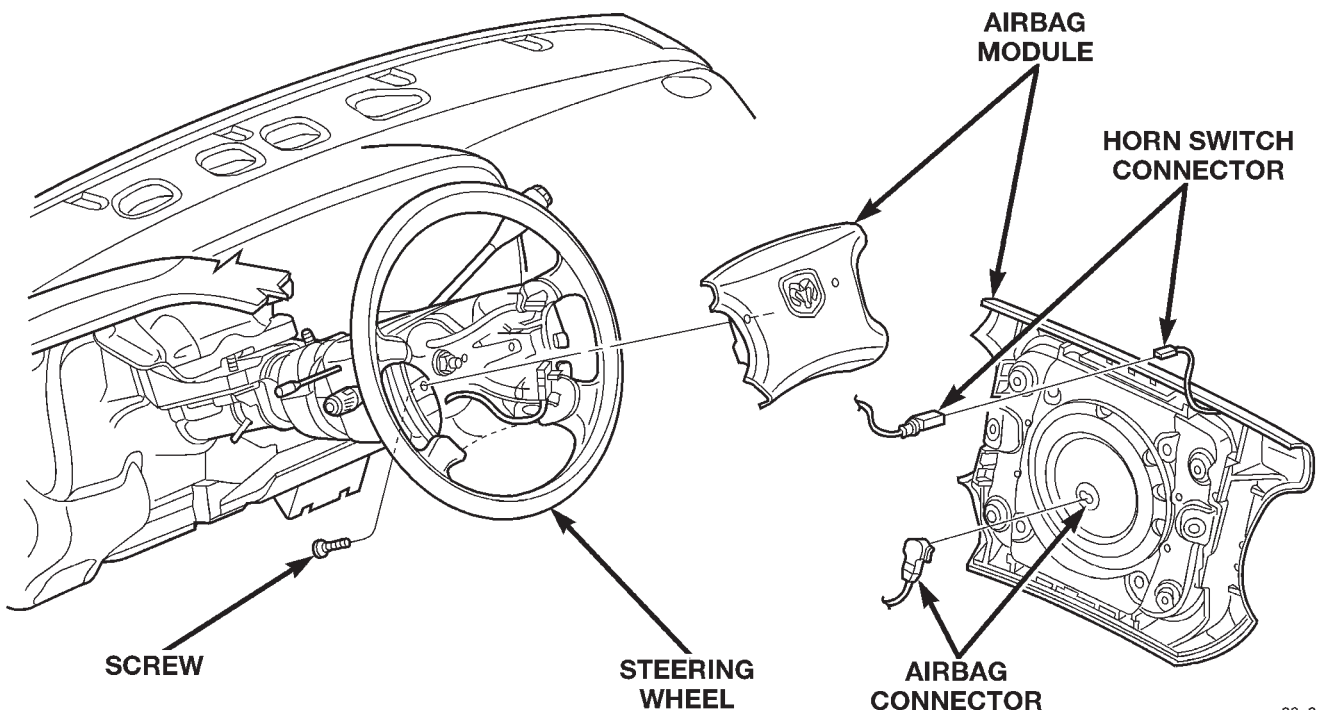

Fig. 4 Driver Side Airbag Module Remove/Install
(1) Disconnect and isolate the battery negative cable. If the airbag has not been deployed, wait two minutes for the system capacitor to discharge before further service.
(2) From the underside of the steering wheel, remove the two screws that secure the driver side airbag module to the steering wheel (Fig. 4).
(3) Pull the airbag module away from the steering wheel far enough to access the wire harness connectors on the back of the airbag module.
(4) Unplug the airbag module and horn switch wire harness connectors from the back of the airbag module.